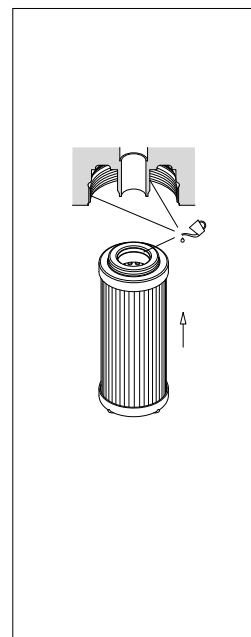

fig. 16
- (Fig. 16) Lubricate with the operating fluid the filter element O-ring, the housing tap and cavity, then fit the filter element on the tap. Pay attention not to damage the O-ring seal.